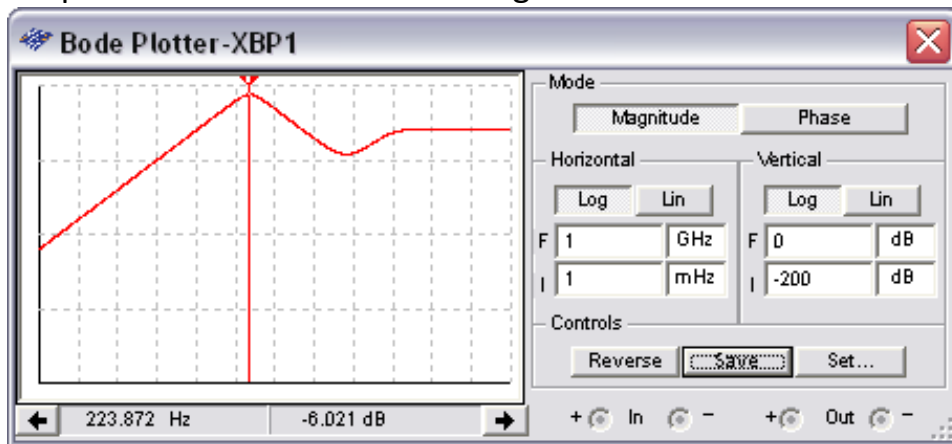

Figure E2-11. Bode Plotter Showing Center Frequency Measurement
- c. Open the **Bode analyzer** front panel by double-clicking on it. Click the **Reverse** button to turn the background color white. The **Bode plotter** front panel should look similar to Figure E2-11.